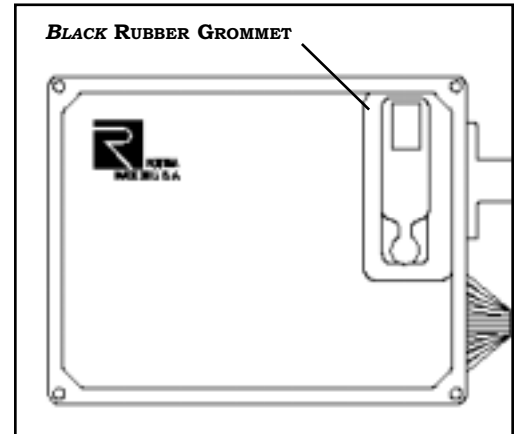

FIGURE 31
- A.** PUSH RUBBER GROMMET SECURELY INTO PLACE ON THE COVER OF THE **CRUISE MODULE**. **FIGURE 31**